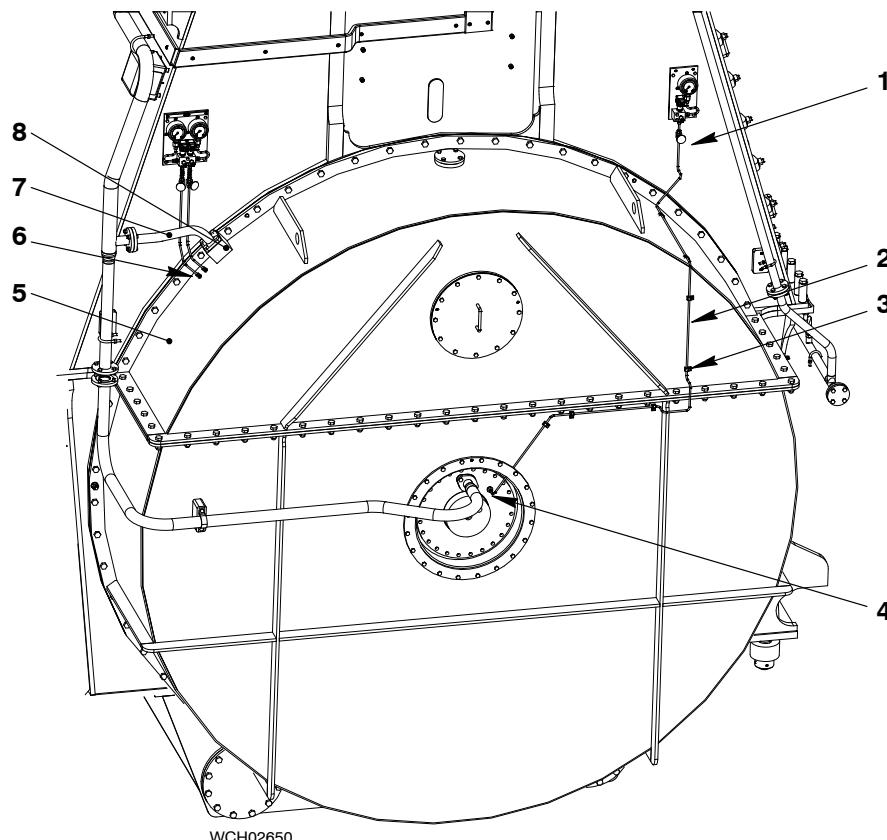

Fig. 1
- 3) Remove the copper pipe (2, Fig. 1) from the needle valve (1), the damper housing (4) and the hose clips (3).
- 4) Remove the oil inlet pipe (7) from the flange (8).
- 5) Remove the two pipes from the screw-in unions (6).